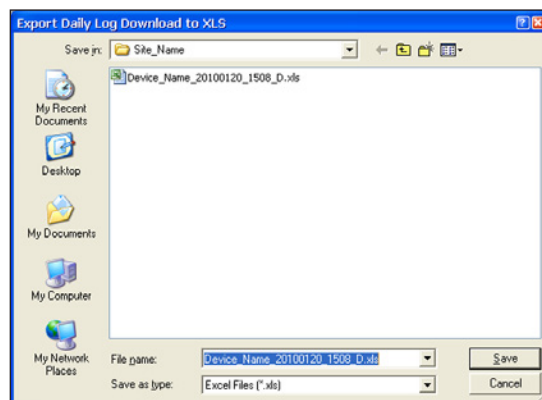

Figure 14.37
3. An Export... window will appear (Figure 14.37, page 214). To change the file path and/or file name from the defaults listed below, browse to the desired file path and/or type the desired entry in the field provided. See Log Directory and Filenames, page A-22 for more information.